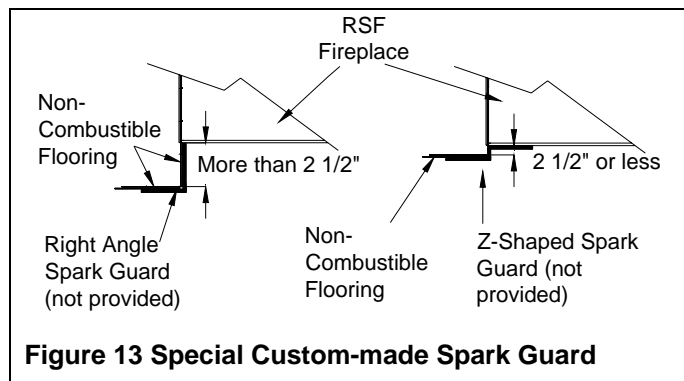

Figure 13 Special Custom-made Spark Guard
If you are preparing a raised installation, you will need a custom made spark guard, either a "Z" shaped spark guard or a right angle spark guard (see Figure 13). The Z-shaped spark guard must be used if the height between the bottom of the fireplace and the top of the non-combustible flooring of the hearth extension is less than or equal to 2 ½". The height of the Z-shaped spark guard must equal the distance between the floor and the base of the unit and go under the hearth extension and the fireplace by at least 2½". If the unit is installed higher than 2 ½" from the top of the flooring, a right angle spark guard is necessary. The sides of the right angle spark guard should be at least 2½" x 2½" and must be covered with non-combustible material. Any custom made spark guard must have the minimum width specified in Table 1 (I), and be installed centered on the door opening.